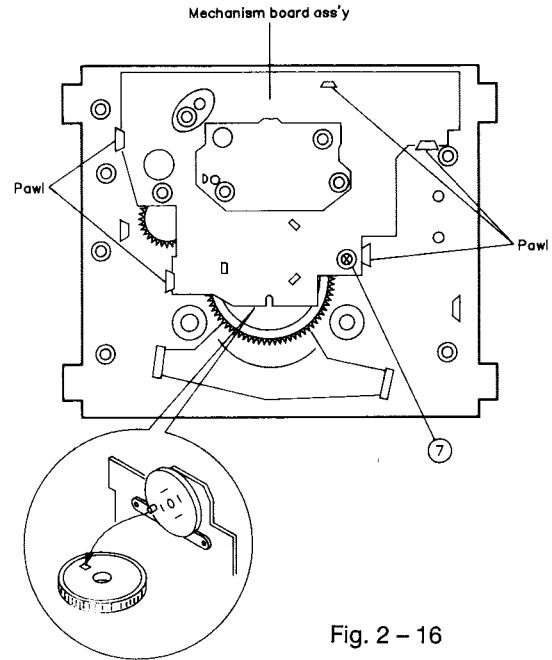

Fig. 2 - 16
◆ **Control cam** (Fig. 2 - 17, 2 - 18)
1. Release the control cam from two pawls. (Fig. 2 - 17)